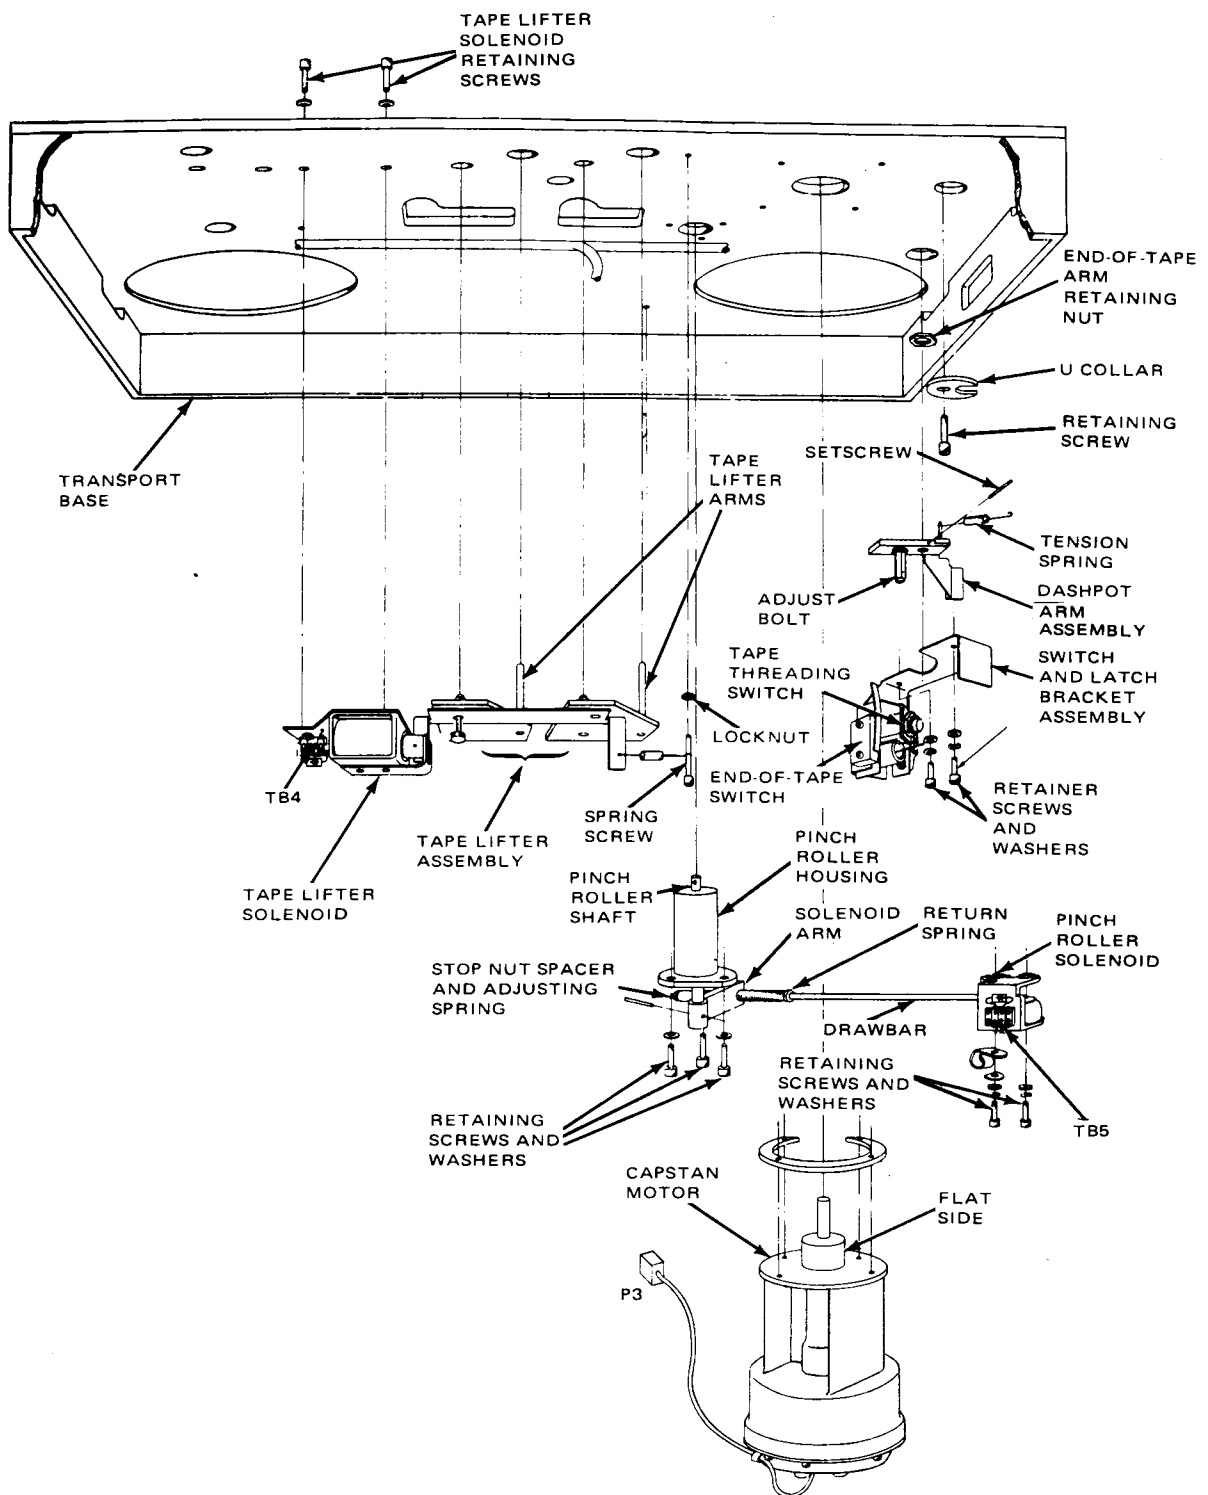

Figure 5-25. Transport Disassembly (Bottom)
Refer to Figure 5-25 and remove the capstan motor as follows:
Remove the pinch roller solenoid (refer to Figure 5-25) as follows:
2. On the underside of the transport base (see Figure 5-25), loosen the setscrew that secures the dashpot arm assembly to the end-of-tape arm.
3. Remove the end-of-tape arm retaining nut and remove the end-of-tape arm from the transport base (see Figure 5-25).
1. Align the mating holes in the switch and latch bracket assembly with the mating holes in the transport base (see Figure 5-25).
1. Feed the search-to-cue and tape timer assembly electrical connector and harness through the mating hole (see Figure 5-25) in the transport base, and place the assembly in position on the transport base.
2. Remove two terminal lugs from TB4 located on the tape lifter assembly solenoid on the underside of the transport base (see Figure 5-25).